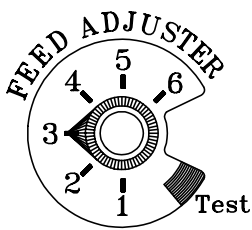

Fig. 18
**Adjust feed rate.** If this is your first fire or you are trying different pellets, set the feed adjuster to "3", fig. 18. This is a conservative number and will probably need to be increased. After you know a feed rate setting that works well, use that setting. Remember, too high a feed rate will waste fuel.